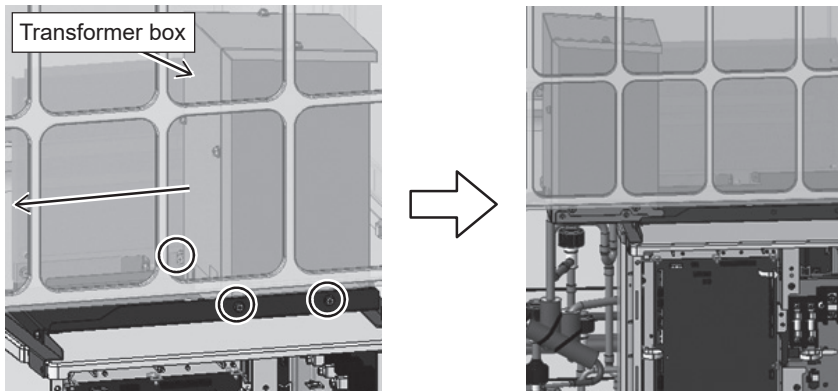

Figure 4
- (5) Unscrew the screw holding the transformer box, and move the box as shown in the figure. (3 screws as shown in Figure 4.)